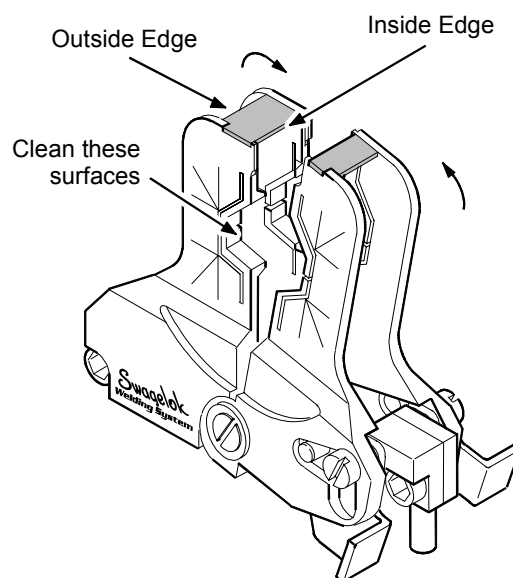

Figure 25 Checking/Replacing the Insulator Tape
2. If applicable, check the fixture insulating tape for damage. Replace the tape if it is loose or torn, exposing the metal under it. See Figure 25.
- c. Apply one end of the pre-cut tape strip to the inside edge of the underside surface. The tape should wrap in the direction shown in Figure 25.